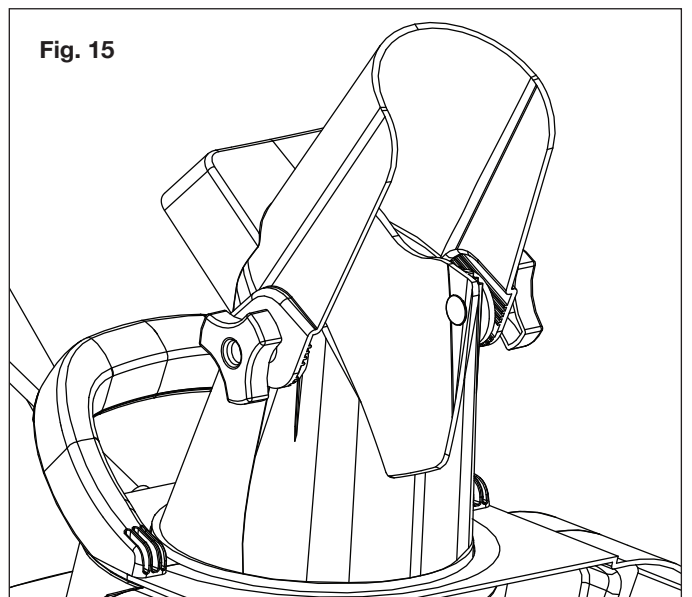

Fig. 15
- Secure the deflector bolts, washers and knobs. Make sure the knobs are tightened (Fig. 15).